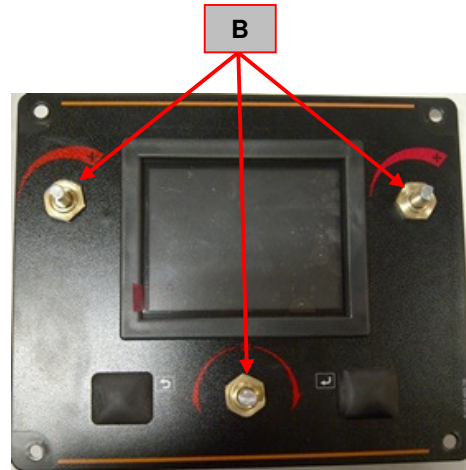

Figure 15
7. Using the 14 mm wrench remove the three nuts (B) that are fixing the three encoders to the UI panel. See **Figure 15**.